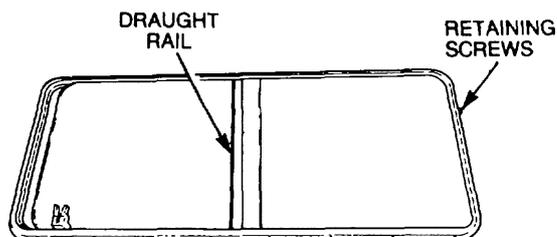

Figure 226 Window Frame Halves Removal
- e. Remove the six recessed screws securing the upper and lower halves of the window frame together (Figure 226).
- z. Tighten the six screws securely (Figure 226).